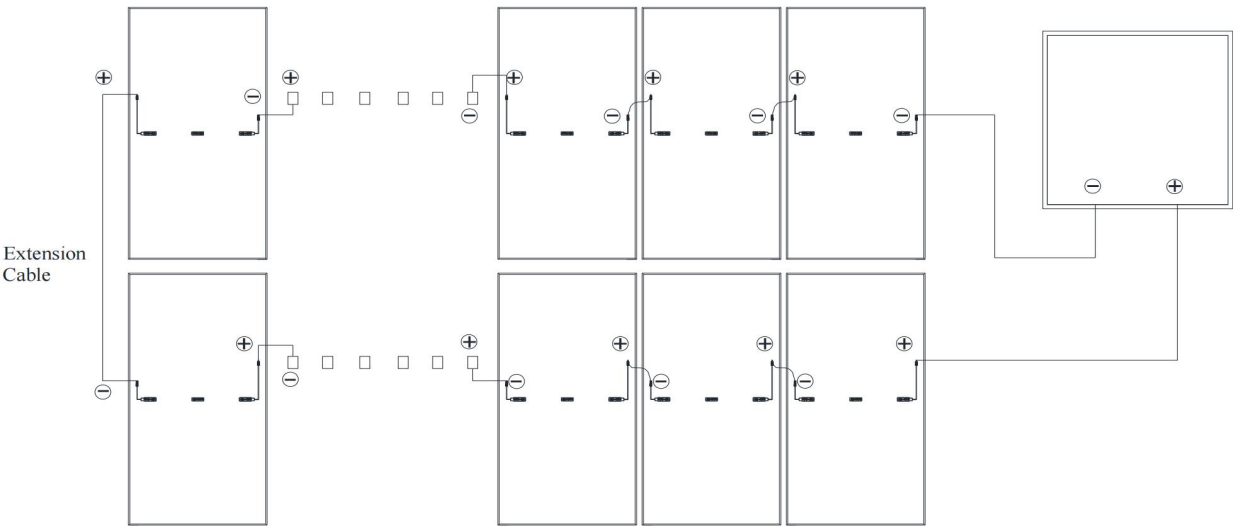
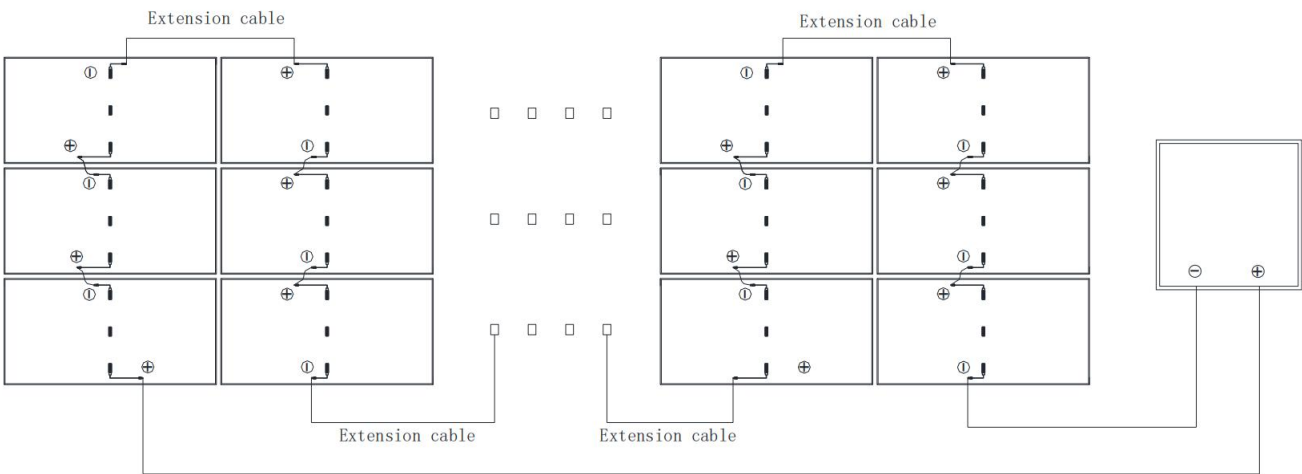

Fig. 9-1 Vertical installation of short cable modules
Fig. 9-2 Horizontal installation of short cable modules
- ☞ The recommended vertical installation connection methods for module with short cables. See Fig. 9-1. The horizontal installation connection methods see Fig. 9-2.